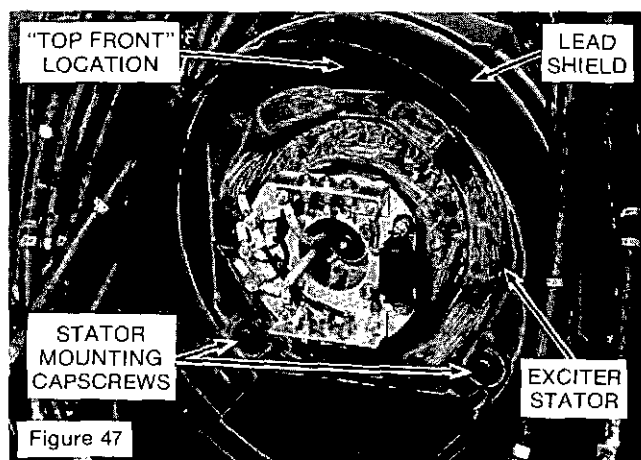

Figure 47
3. Mount the exciter stator on the front end bracket mounting pads and align the mounting holes, noting the position of "top front" previously marked for reference (field leads at inside bottom). (See Figure 47.) Align the lead shield on the exciter stator and mount with the capscrews and belleville washers (see Figure 44). Torque the capscrews per Figure 49. Install new lead fasteners to secure F1 and F2 to the front end bracket and conduit box.